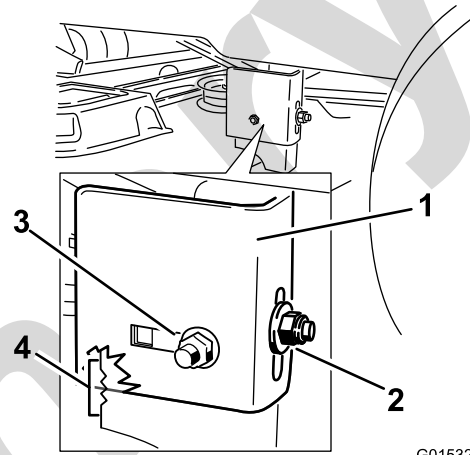

Figure 52
10. Stop the deck at the adjusted position and tighten the rear locking nut on the hanger bracket to hold the new position (Figure 52). Tighten the side locking nut on the hanger bracket.